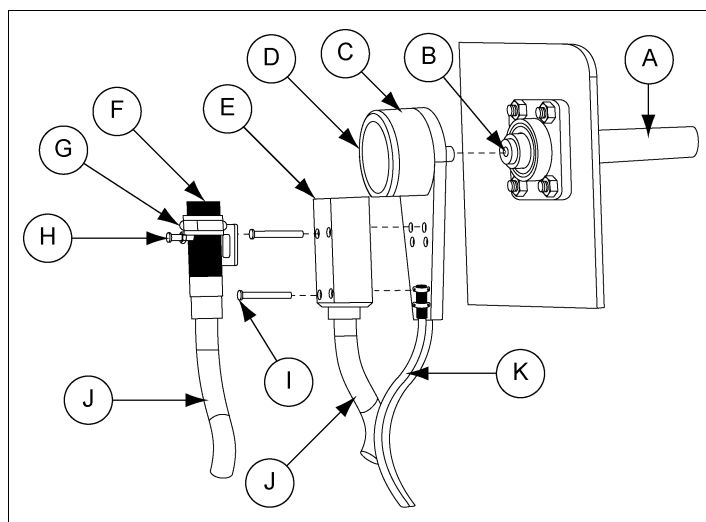

Figure 8A
2. Thread the Whirligig onto the machine shaft using 19 mm (M12) open ended wrench and suitable thread locking adhesive (loctite or similar). (See Figure 8A.)
3. Install the sensor to the Whirligig base plate. Two (2) sets of pre-drilled holes are provided for M800 sensor. Fit the sensor to leave an approximate 2 mm gap between sensor face and cover. A universal bracket (WGB18/30) is supplied for fitting 18 mm or 30 mm sensors.